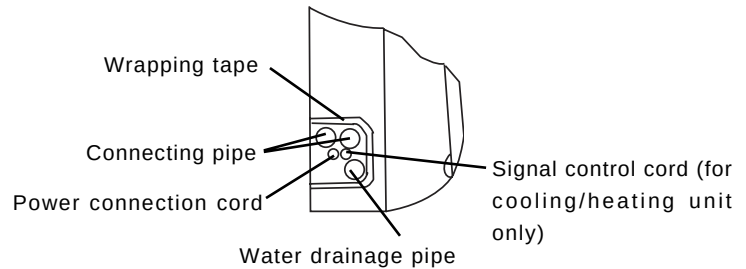

Fig. 9-5
- Cut down sections 1, 2 (or 1, 2, 3) when the connection pipe and wire are led: among them ①, ②, ③ are recommended.
- Let the piping and cord pass through the piping hole after tired up. (As shown in the following figure 9-5).